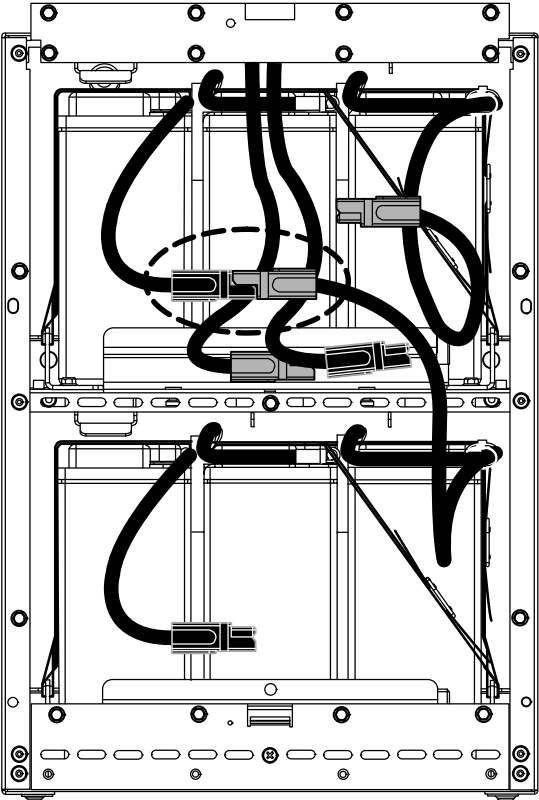

Figure 21. Connecting the Battery Trays
- 15. Connect the two battery trays together by connecting the black connector from the top tray to the red connector from the bottom tray. See Figure 21.